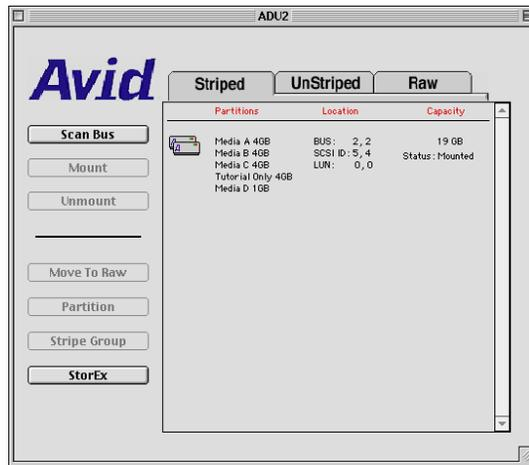

Figure 25 ADU2 Window
1. Double-click the ADU2 icon. The ADU2 window opens, showing the state of the application when it was used last (see Figure 25).
2. To find the drive partition names, click the Striped and UnStriped tabs at the top of the window (see Figure 25). The window changes to display the name of each partition on the drive as shown on the desktop.